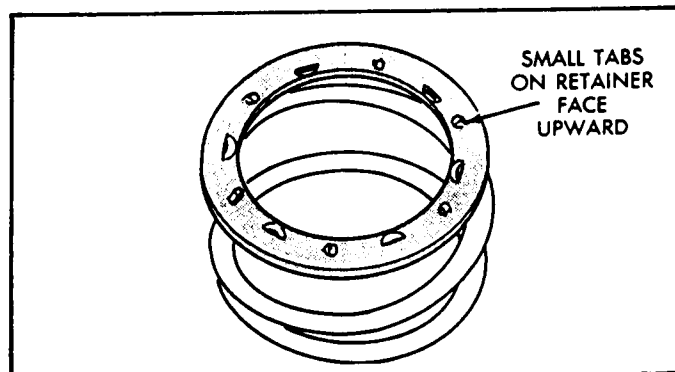

Figure 63
10. Install the retainer on top of spring with small raised tabs facing up, as shown in Figure 63.